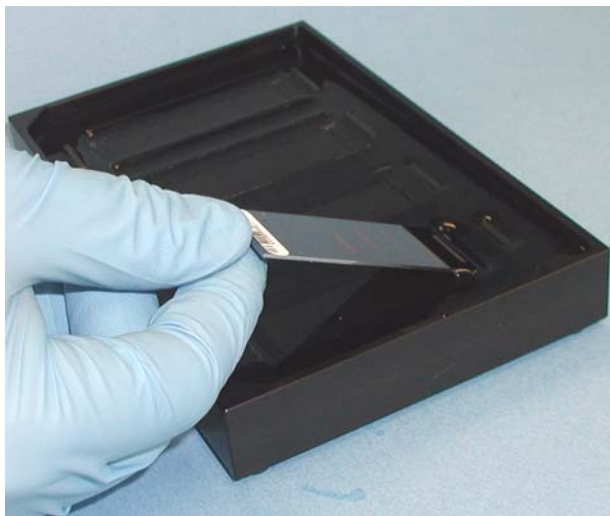

Figure 47 Placing BeadChip into Black Frame on Alignment Fixture
2. Place each BeadChip into a black frame, aligning its barcode with the ridges stamped onto the Alignment Fixture (Figure 47).